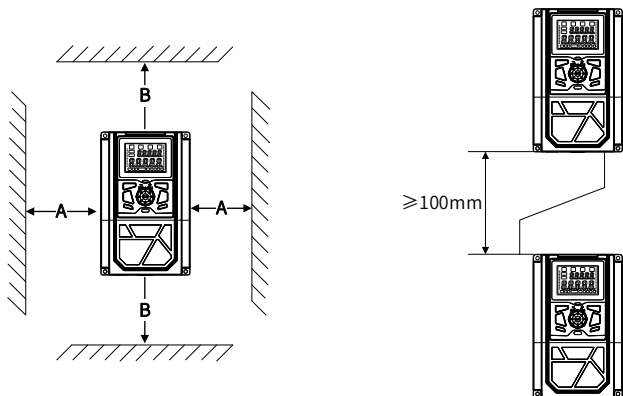

Figure 3-1 Schematic diagram of installation
- 1) Please install the inverter vertically to facilitate the upward heat dissipation. But not upside down. If there are more frequency converters in the cabinet, it is best to install side by side. Where upper and lower installation is required, please refer to the schematic diagram in Figure 3-1 to install the heat insulation deflector.
- 2) The installation space shall be as shown in Figure 3-1 to ensure the heat dissipation space of the inverter. However, please consider the heat dissipation of other devices in the cabinet when arranging.